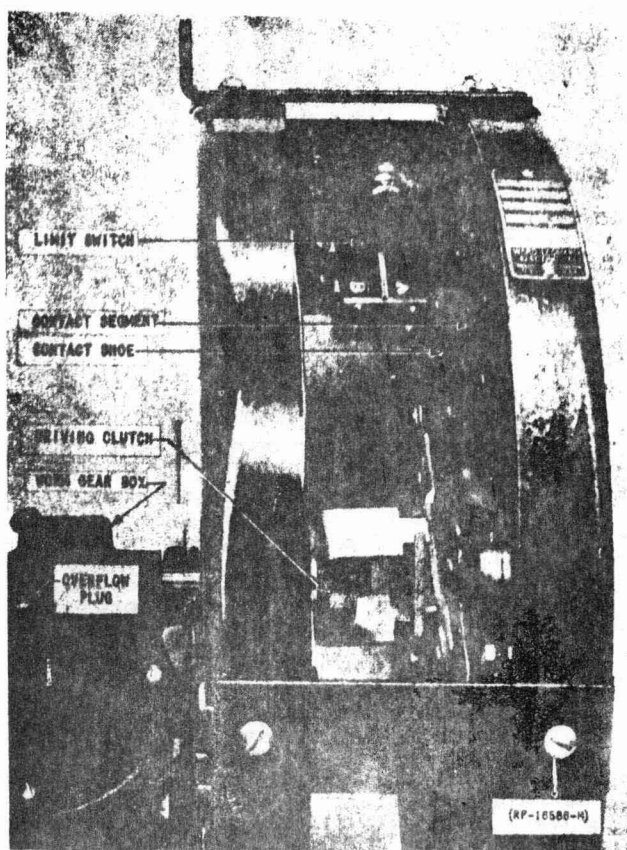

FIG. 1 TYPICAL MOTOR-DRIVEN RHEOSTAT
1.11 This section covers installation and adjustment of KS-15571 and KS-15743 motor-driven rheostats. These rheostats are used in 301C, 302A, 410A, 410B, and 702C power plants. Figure 1 shows a portion of a typical motor-driven rheostat.